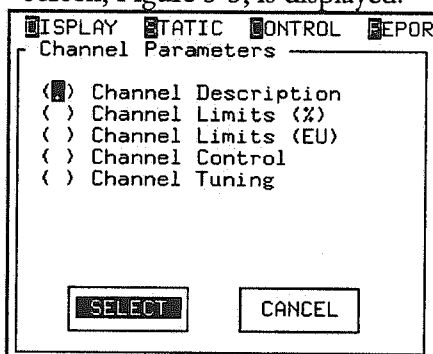
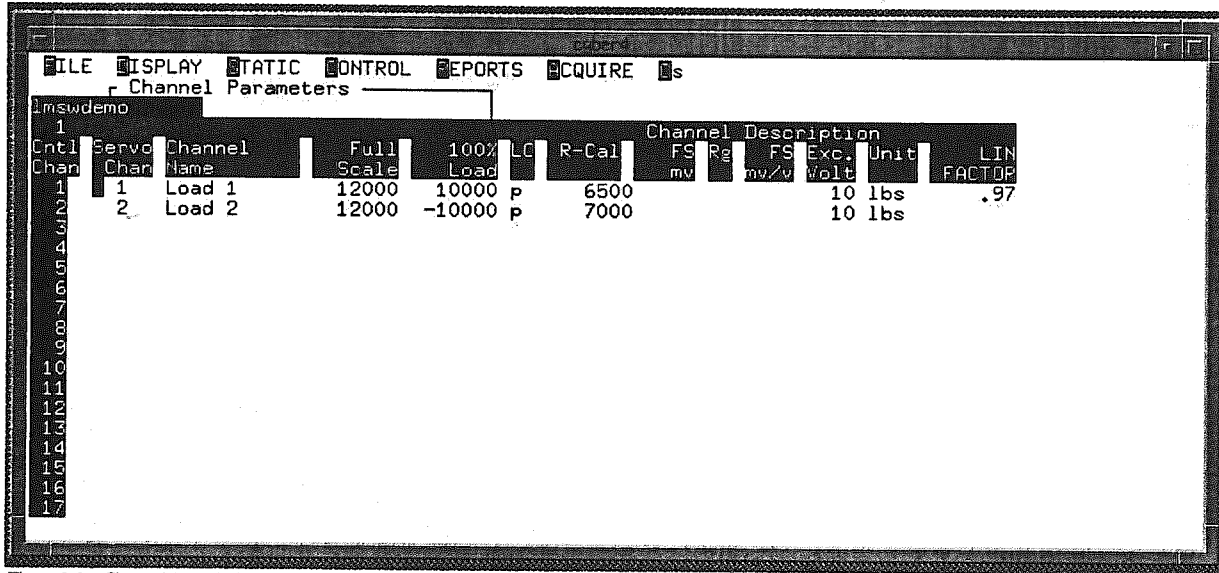

Figure 3-2 Channel Parameters Dialog Box
Figure 3-3 Channel Description Screen
Step 1: Select the Display menu, Channel Parameters option. The dialog box shown in Figure 3-2 is displayed. Select Channel Description. The Channel Description screen, Figure 3-3, is displayed.